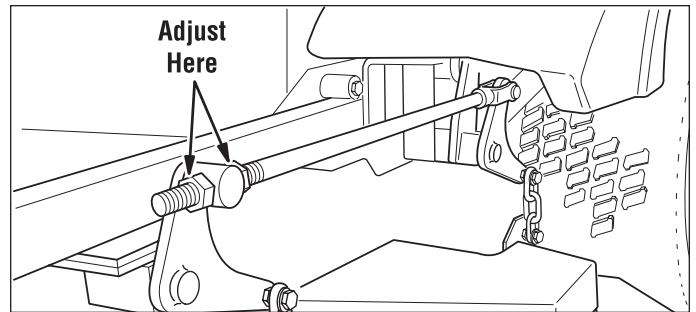

Figure 34. Adjust Lift Rod Timing
4. Refer to Figure 34. To adjust the lift rod timing, adjust the 5/8" hex nuts on either side of the front lift pivot until the measurements are equal. Repeat for other side.